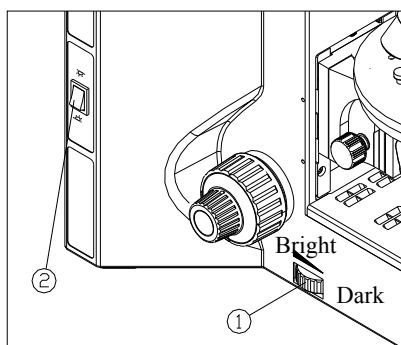

Fig. 14
- (4) For transmitted illumination, set the switch ② to “”, and pull out the spectroscope pole ③ to move the spectroscope out of the light path, then adjust the light adjustment knob ① until the illumination is comfortable for observation. (See Fig. 14, 15)